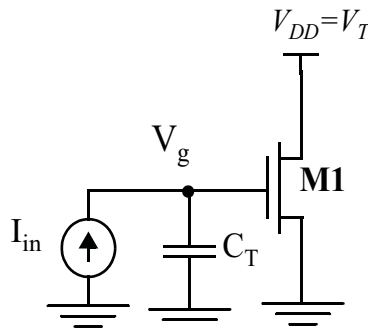

Figure 0.14 Circuit to measure total input capacitance
- Consider the configuration of Figure 0.14. V_{DD} is equal to V_T (the threshold voltage of the transistor) Assume that the initial value of V_g equals 0. A current source with value I_{in} is applied at time 0. Assuming that all the capacitance at the gate node can be lumped into a single, grounded, linear capacitance C_T , derive an expression for the time it will take for V_g to reach $2V_T$